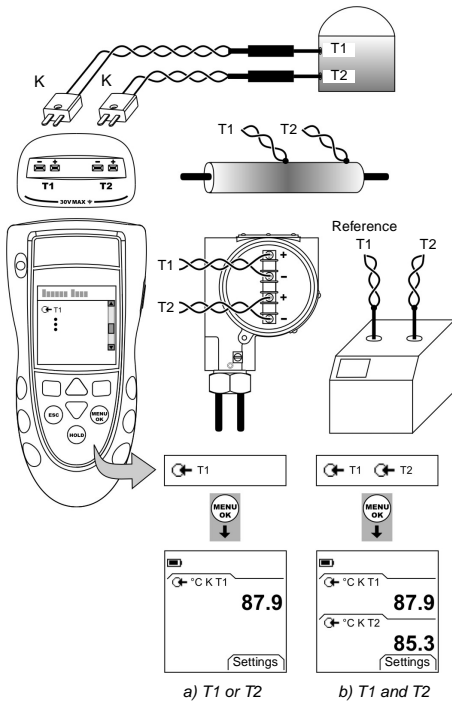

Figure 1: Example configurations - To measure the temperature with one or two thermocouples
Attach the thermocouple wires to the applicable thermocouple mini-connector (Figure 1). The wider blade is the negative. Then attach the connector to the instrument.
1. Connect the applicable thermocouples (Figure 1/2) and, if necessary, adjust the *Set Up* (Table 1).
The examples in Figure 1 show how to compare temperatures or measure different temperatures in a system.